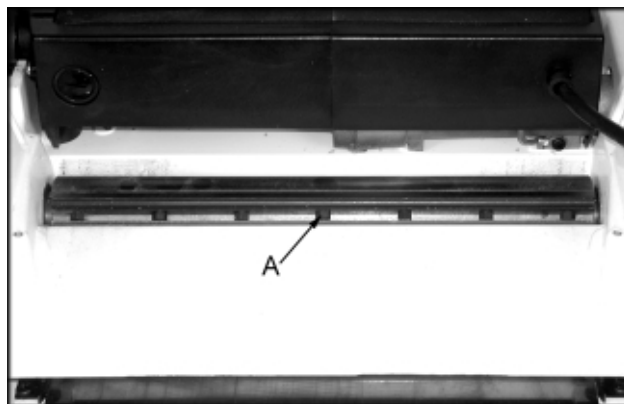

Fig. 14
5. Loosen seven screws (A, Fig. 14) and remove the first planer knife.
6. Tighten remaining screws firmly, to a torque of 50 in. lbs. (See Fig. 14).